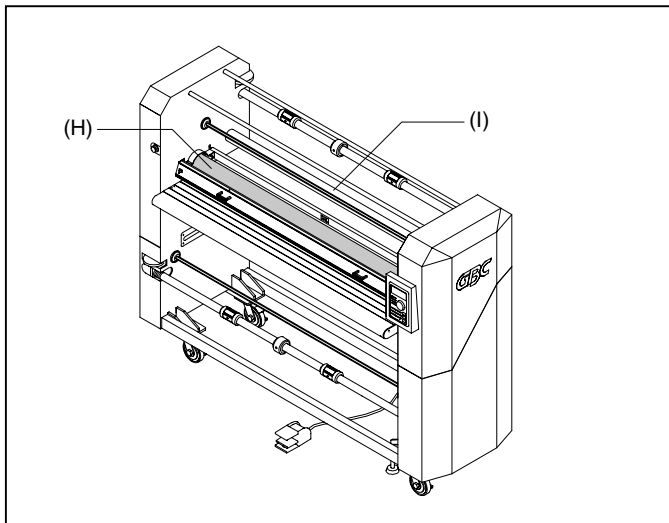

Fig. 13
H. MAIN ROLLER: (Figure 13) Silicone rubber coated steel tubes compress the film to the items being laminated. The top main roller can be heated by an internal heating element which assists the flow of adhesive of the top roll of film. The main rollers are motor driven for ease of loading new film.
I. IDLER BAR: (Figure 13) The idler bars, located near each main roller, are used to direct the film to the main roller nip. The bottom Idler Bar is movable to ease film loading.